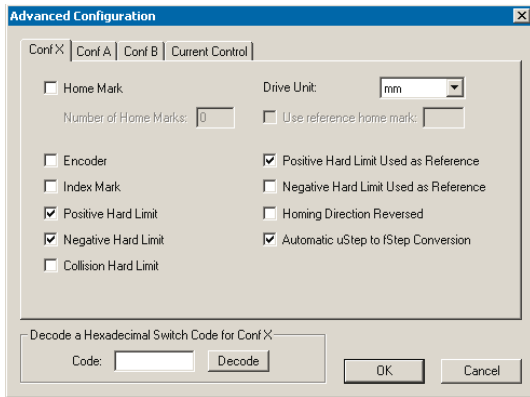
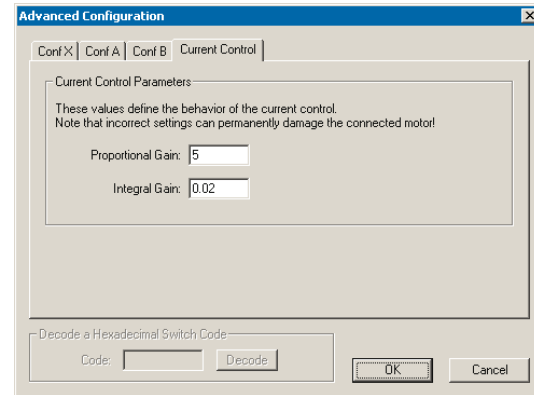

Figure 7.13 Conf X Settings
Figure 7.16 Current Control Settings
5. Click on **Change Values (D)** to get access to advanced parameters.
6. Click on **Switches (E)** and check the parameters in the four tabs as shown in Figure 7.13 to Figure 7.16.